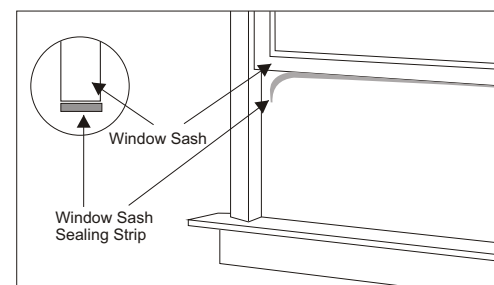

Fig. 9
D. Cut the **seal strip** to fit the underside of the bottom **window sash**. Remove the peel-off backing on the seal and attach it to this sash. See (Fig. 9).